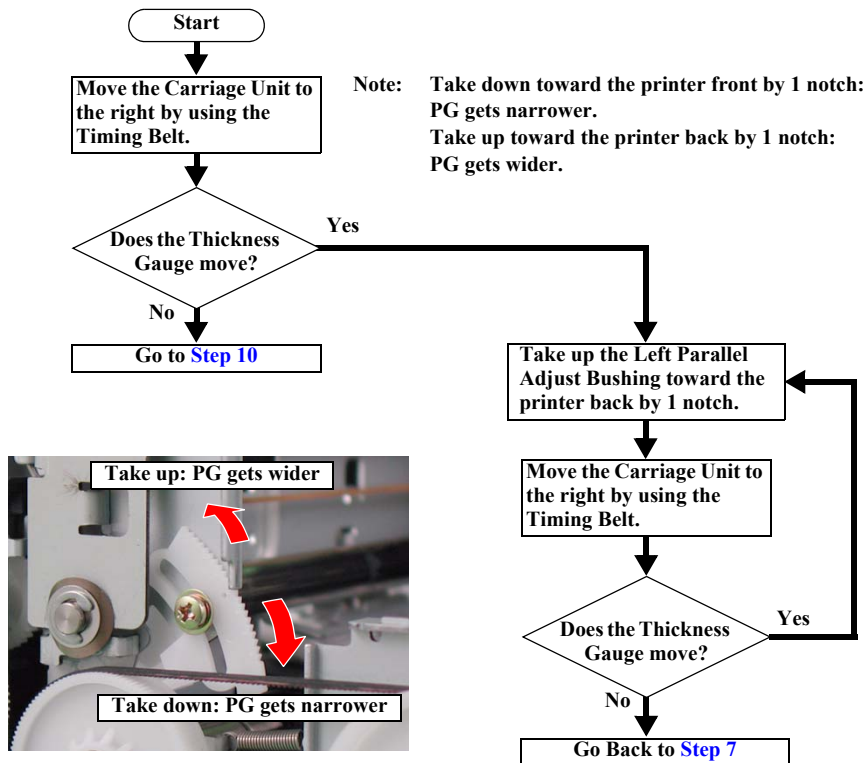

Figure 3-12. PG Checking (1)
9. After finishing PG Adjustment on the right, move the Carriage Unit to the left edge again, then check PG according to the flowchart in the Figure 3-12.